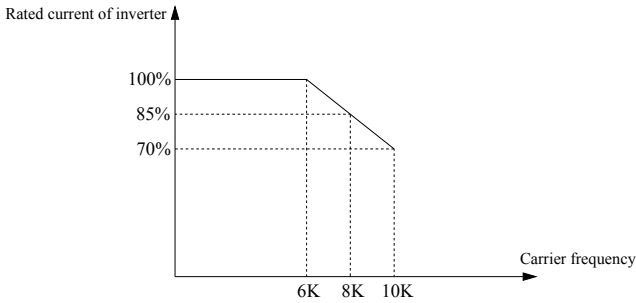

Fig.2-6 Carrier frequency derating
(1) Carrier frequency derating: When the carrier frequency is higher than the factory setting, derate according to Fig.2-6.